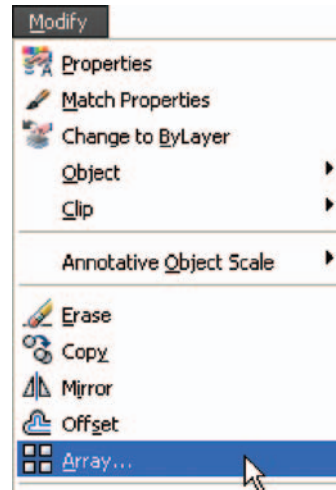
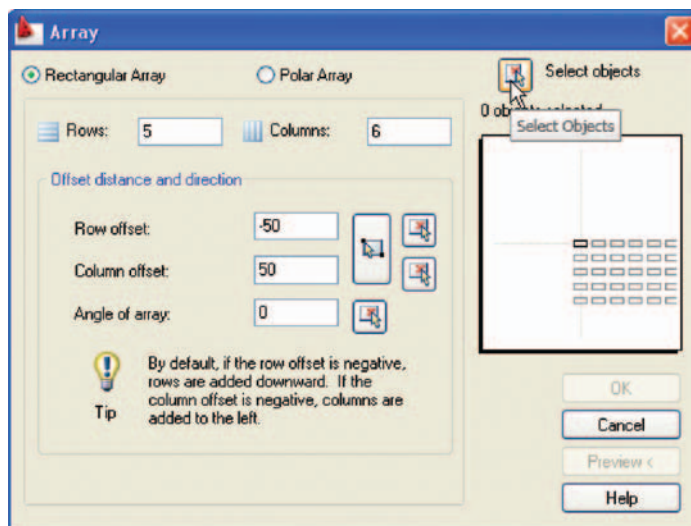

Fig. 5.16 Selecting **Array** from the **Modify** drop-down menu
Fig. 5.17 First example – the **Array** dialog
First example – Rectangular Array (Fig. 5.17)
2. Call the **Array** tool – either *click* **Array** in the **Modify** drop-down menu (Fig. 5.16), from the **Home/Modify** panel, *pick* the **Array** tool icon from the **Modify** toolbar, or *enter* **ar** or **array** at the command line. The **Array** dialog appears (Fig. 5.17).